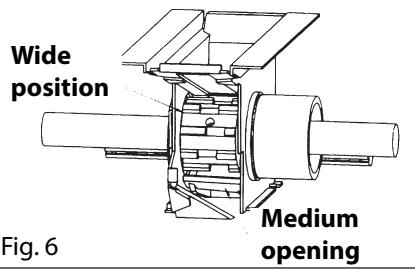

Fig. 6
- Wide position with large alternated housings, used for regular or big seeds (figs. 6 and 7).